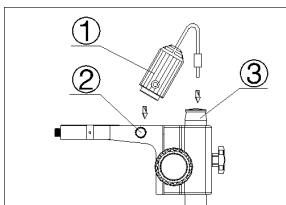

Fig.6
- 1) Insert the illumination device (1) in the bracket with the protrudent side toward the lock-screw (2) and tighten the lock-screw. (Fig.6)
- 2) Put the plug into the socket of the pillar stand (3).